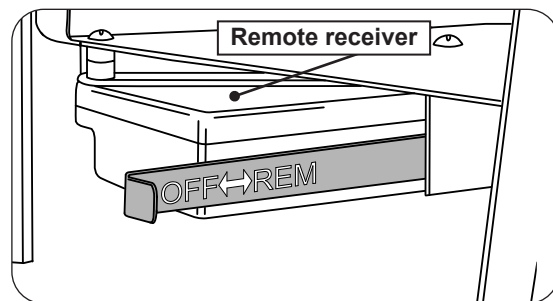

Fig. 35-1
1. Locate the OFF/REMOTE slide actuator on the left rear of the burner. Slide the actuator to the left / **OFF** position. See Fig. 35-1.